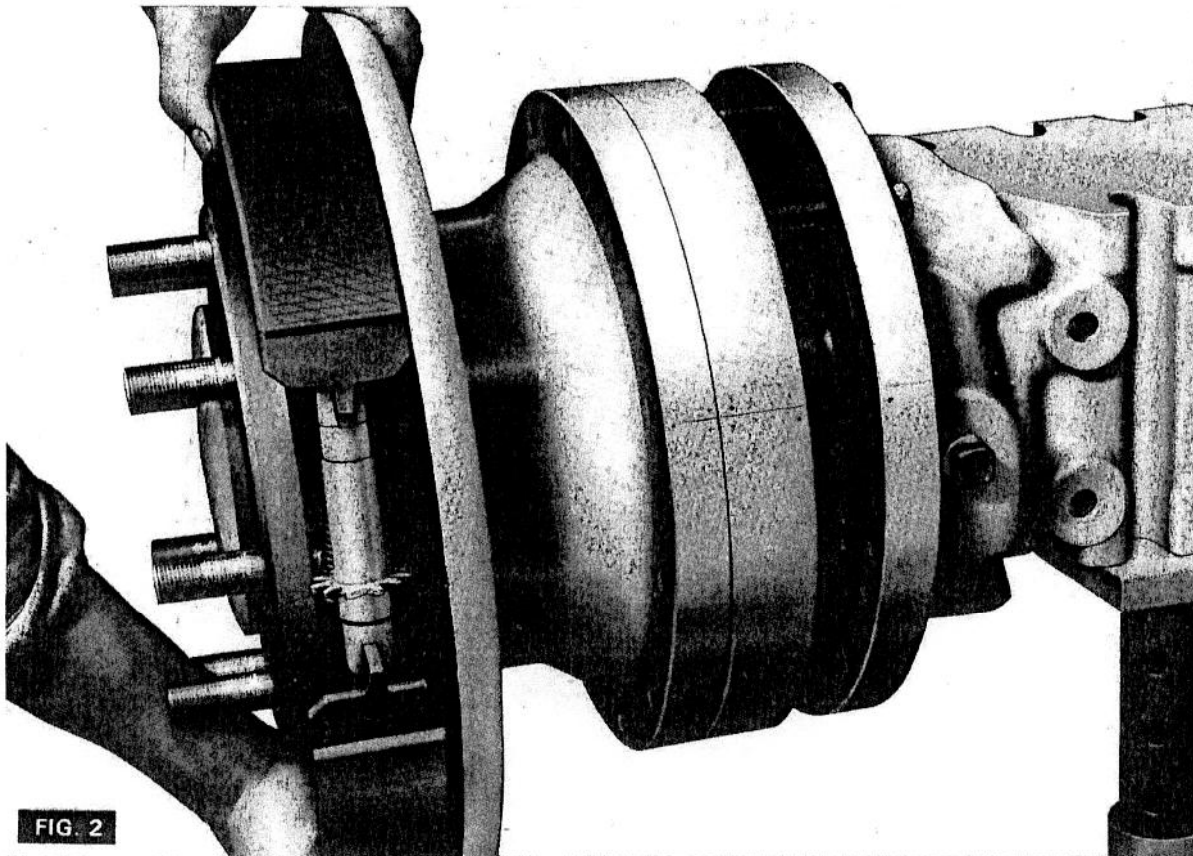

FIG. 2
7. (Fig. 2) Withdraw the epicyclic unit complete with ring gear from the trumpet housing. Do not withdraw the axle shaft.